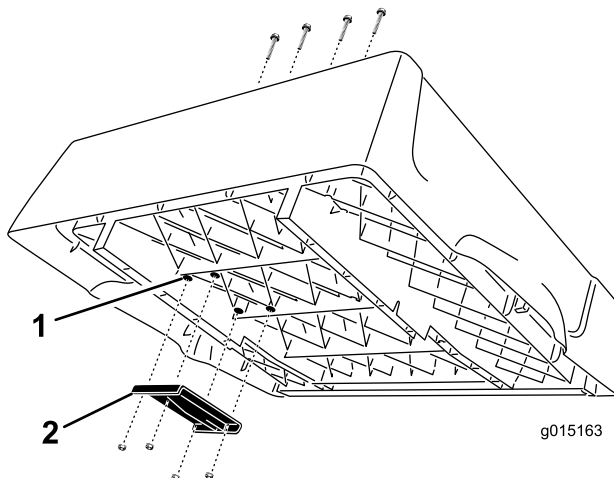

Figure 3
1. Locate the 4 bosses on the underside of the box on the right side (Figure 3). Using a drill with a 3/8 inch (9.5 mm) bit, carefully drill up through the bosses to make four holes through the floor of the bed.
2. Mount the upper lift bracket to the underside of the box with 4 pan-head, Phillips screws (3/8 x 2-1/2 inches) and flange locknuts (Whiz lock) (3/8 inch). Position the bracket as shown in Figure 3.